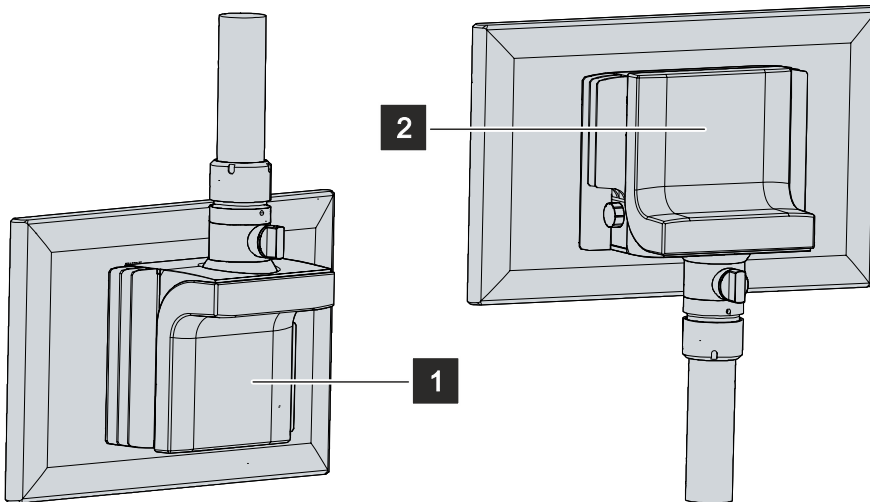

Fig. 11: Mounting arm adapter
Figure 11 shows the standard variant with mounting arm adapter from above (1) and the option with mounting arm adapter from below (2). Regardless of whether the mounting arm adapter is aligned upwards or downwards, it has a locking screw to prevent it from rotating and can be swiveled by $\pm 165^\circ$. The adapter adapts the Panel PC with a 48 mm circular tube. The permissible tolerance is -0.1 to $+0.8$ mm.